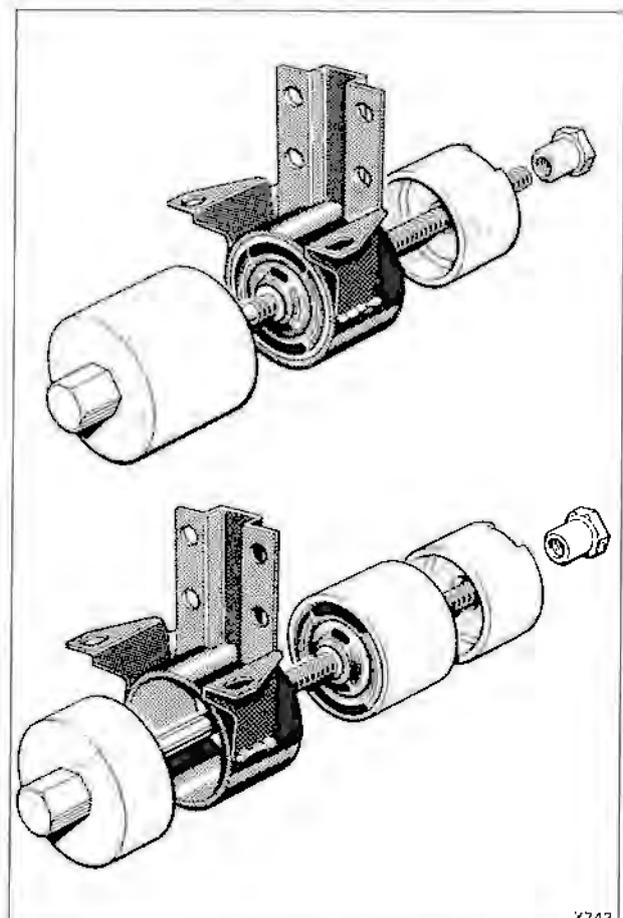

Fig. H9-5 Mount extraction and insertion tool
11. Position the extraction components of tool RH9291 onto the mount (see fig. H9-5). Tighten the draw bar until the mount is withdrawn from the crossmember. Remove the old mount and the extraction cup from the tool.
8. Remove the mount from its housing using the extraction components of tool RH 9291 (see fig. H9-5).